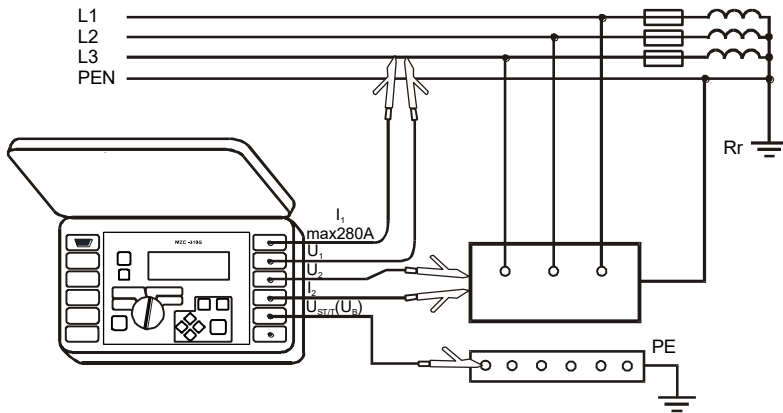
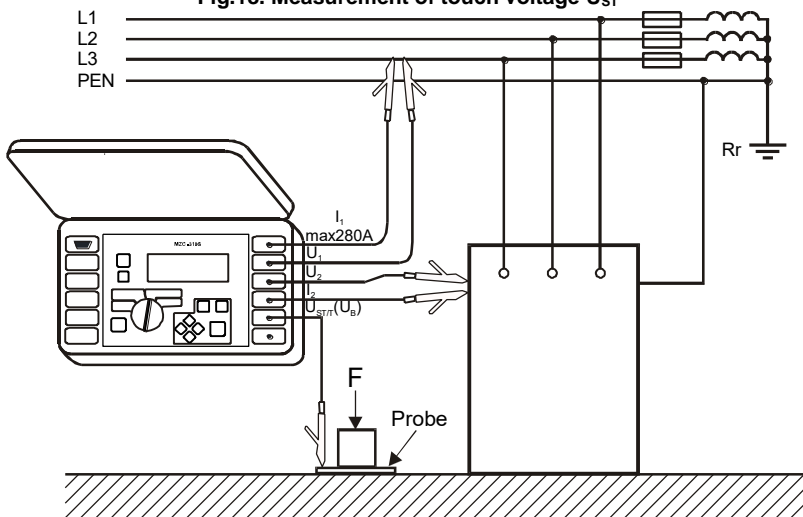

Fig.18. Measurement of touch voltage U_{ST}
Fig.19. Measurement of shock voltage U_T
In the short-circuit loop parameters measurement (2p or 4p) mode, the instrument constantly monitors the network voltage and frequency in the way described in section 6.6. Their values are displayed at the bottom of the screen. Index attached to the voltage U symbol informs the user whether the phase voltage - U_{LN} , or the inter-phase voltage - U_{LL} is measured, or whether the voltage value exceeds the ranges shown in Fig.19. - U_{Σ} . The same rules to determine the voltage type apply to the voltage measured while measuring the short-circuit loop impedance.
- Connect test leads as in Fig.18 for U_{ST} or as in Fig. 19 for U_T .
The measurement of touch shock voltage U_T is performed after introducing an additional resistor (inside the device) of $1k\Omega$ between the terminals U_2 and $U_{ST/T}$ (U_B). The resistor simulates resistance of the human body, while the terminal $U_{ST/T}$ (U_B) is to be connected to the probe that simulates human feet located on the ground (Fig.19), whose properties and load are described by relevant standards.